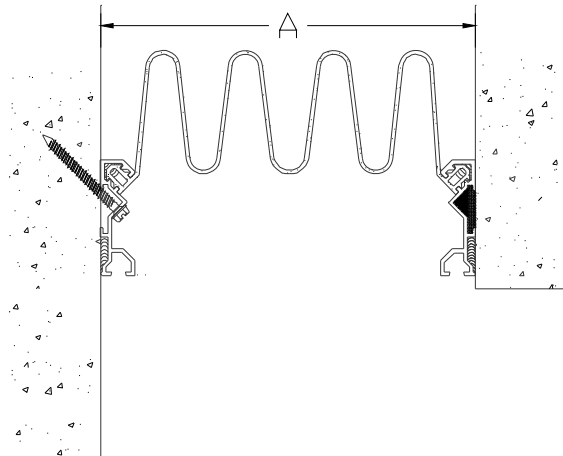

Figure 10
STEP 16. Beginning from the bottom of the joint and leaving the 3" of excess back seal at the bottom of the joint, insert the back seal's arrows into the corresponding base member back seal retainer track. Use a wall paper roller (by others, 1/2" width) to roll the arrows into the tracks continuously along the length of the back seal, see Figure 10.